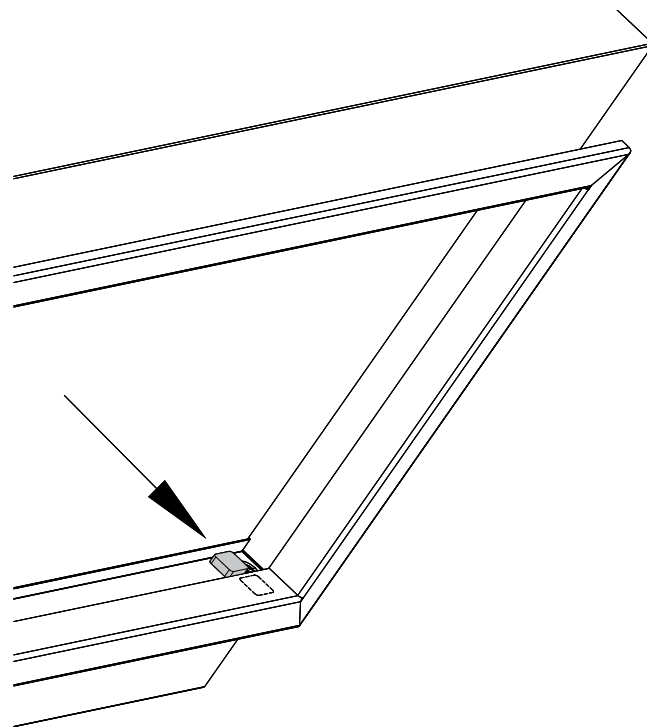

Figure 2.14 - Magnet Location
6. Use the provided magnets to hold the bottom of the surround to the fireplace as shown in Figure 2.14. The magnets will sit on the bottom edge of the fireplace and should be hidden by the bottom flange of the surround.